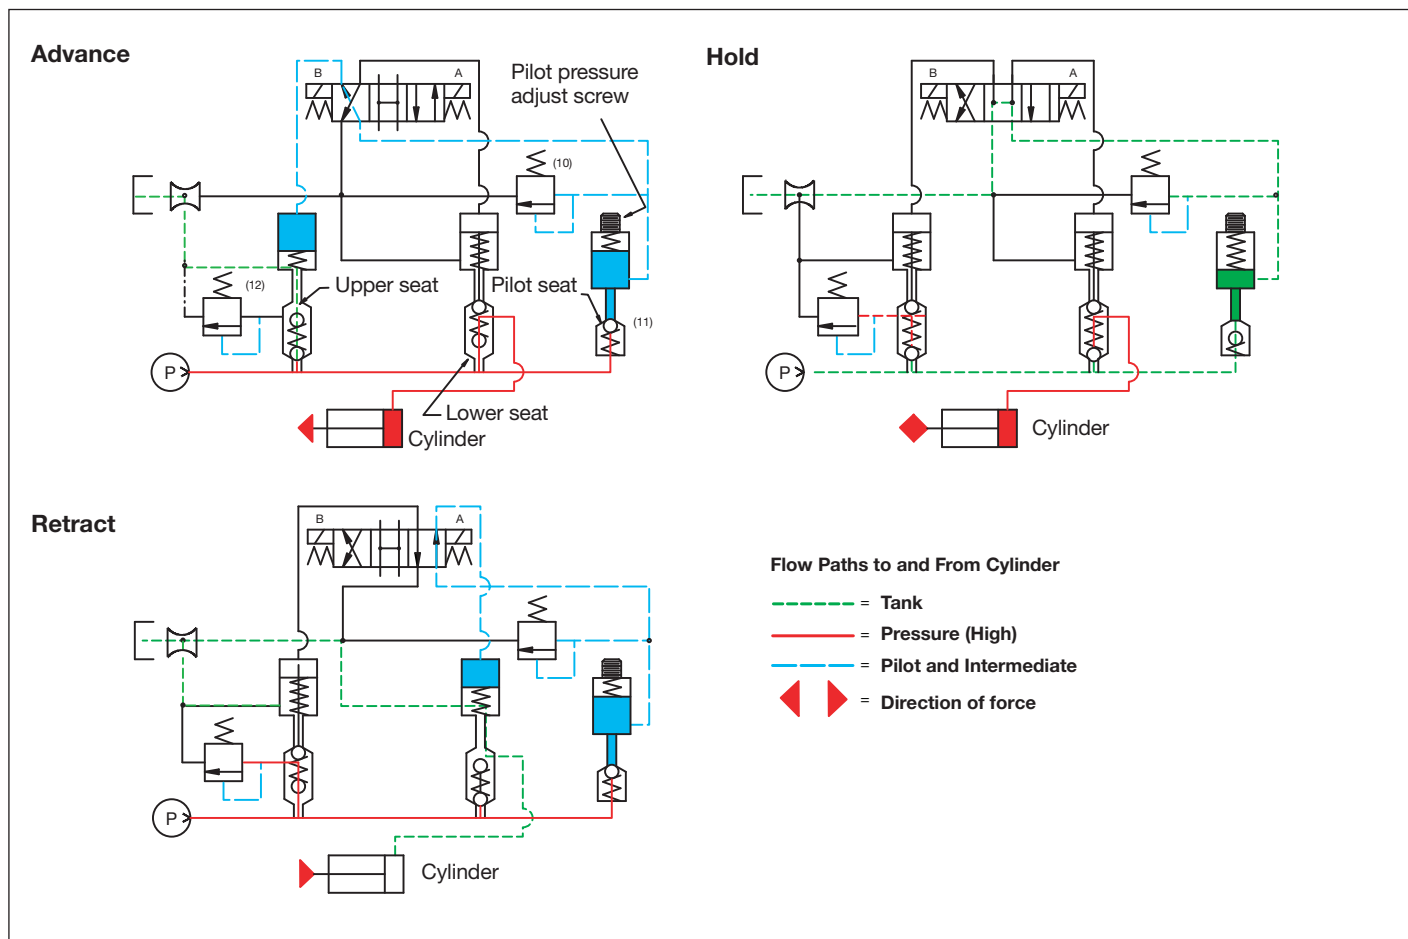

Figure 9, Electrical Diagrams, VE33VAC (For Troubleshooting Purposes Only)
1. To assist in becoming familiar with the function and usage of the valve, please refer to Figures 9 and 10.
4. Inability to obtain any pressure may be the result of damaged connector seals, failed relief valve components (items 9, 14, 15), sticking solenoid spool (item 104), or the pilot pressure setting is too low (less than 500 psi [34 bar]).
7. If the valve malfunction is identical in both directions, check the pilot pressure setting by inserting a 0-5000 psi [0-344 bar] gauge in the port labeled "pilot pressure" on the side of the valve. Advance the valve and check that the pilot pressure is between 1200-1400 psi [82-96 bar] and adjust the pilot pressure adjustment screw (item 35) accordingly to either increase or decrease the pressure setting. If no improvement is noticed, replace the spring (item 37), pilot seat (item 21), and copper gasket (item 20).
8. If the pilot setting cannot be adjusted down, it can indicate the O-ring and backup ring are installed on the wrong side of each other on item 38, or indicates a severe leakage in the pilot seat (item 21) or a broken spring (item 22). Replace parts immediately.
9. If the valve fails to build to maximum pressure, the pilot pressure may be too low. Low pilot pressure may be caused by leakage through the spool valve or a leaking relief ball seat (item 9) in the valve body (item 7), or the pilot setting is too low and needs to be adjusted (see step 7, above).
10. If the valve builds pressure simultaneously in both directions, this may be the result of a broken pin in either one or both of the directional piston assemblies (item 39), and/or the pilot piston (item 38), or the pilot pressure setting (item 35) is too low, or that the pilot spring (item 37) has broken. Either readjust the pilot setting or replace parts immediately.
11. If the valve fails to change direction immediately, this may be due to worn springs (item 19) between the ball directional circuits, or a problem with the directional pistons (item 39), either a broken pin or failed seal. Replace parts immediately.